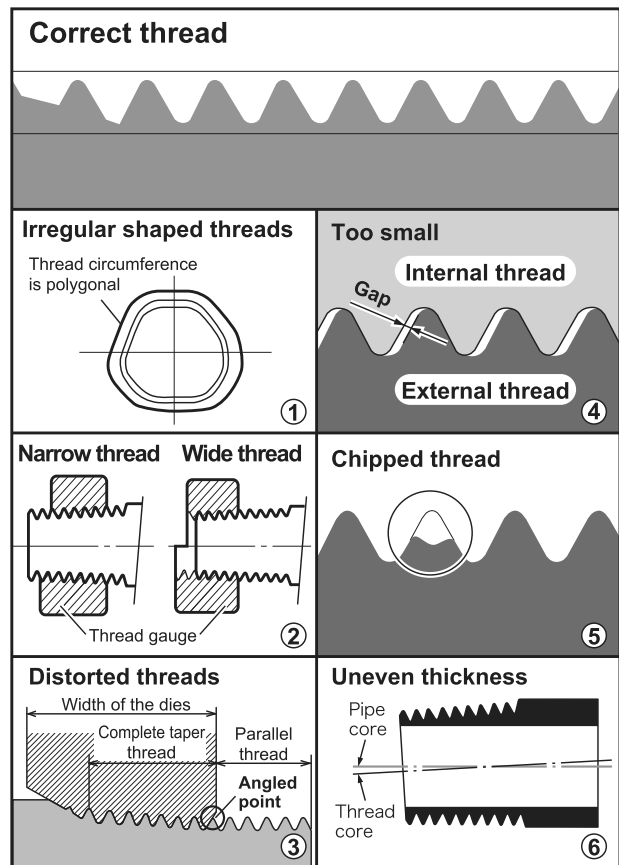

Fig. 37
### Unacceptable threads (Fig. 37)
#### (1) Irregular shaped threads (Fig. 37 - 1)
- (A) Visually inspect the thread after wiping off any oil or dirt with a rag; look for any wave-like formation.
- (B) Gently check the surface of the thread with your fingers, feeling for any irregularity.
- (C) Check if bits of scrap have been produced when cutting.
#### (2) Check if the diameter of the thread is too small or too large (Fig. 37 - 2)
#### (3) Distorted threads (in the case of manual die heads) (Fig. 37 - 3)
#### (4) Threads are too small (Fig. 37 - 4)
#### (5) The thread is chipped (Fig. 37 - 5)
#### (6) Thread with uneven thickness (Fig. 37 - 6)